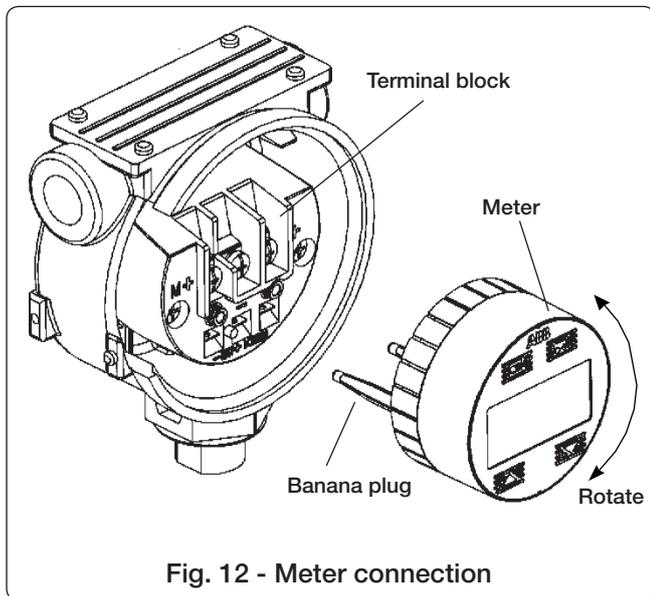

Fig. 12 - Meter connection
- 2) Unplug the meter (see fig. 12)
- 4) If another meter has been fitted (see Fig. 12), rotate it, as required for viewing convenience. The meter can rotate, in 15° steps, 90° clockwise and 255° counterclockwise: further rotation causes damage of the meter stop or of the "banana" connections and should be avoided.